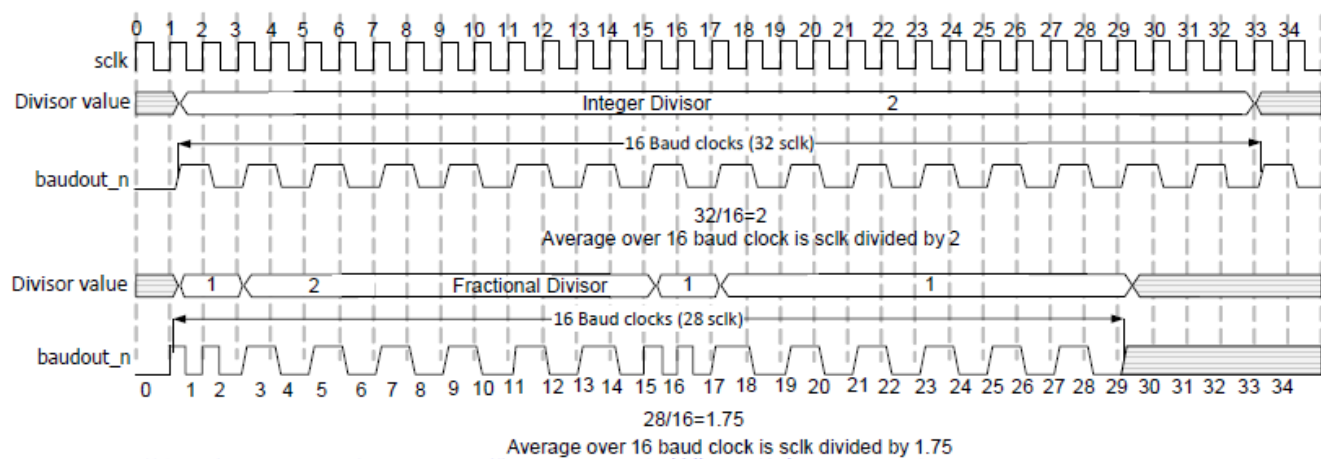

Figure 12-2-10 Example of Integer and Fractional Division Over 16 Clock Periods
As shown in the Figure 12-2-10, the fractional baud clock is generated between N(1) and N+1(2) values to generate the fractional baud rate of 1.75 to achieve the divisor baud rate of 892857 with 0% frequency error compared to 12.49% frequency error in integer baud clock generator.